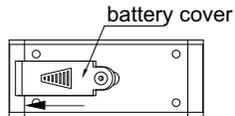

Fig.2
- Slide the battery cover 2mm(fig.2), remove the battery cover